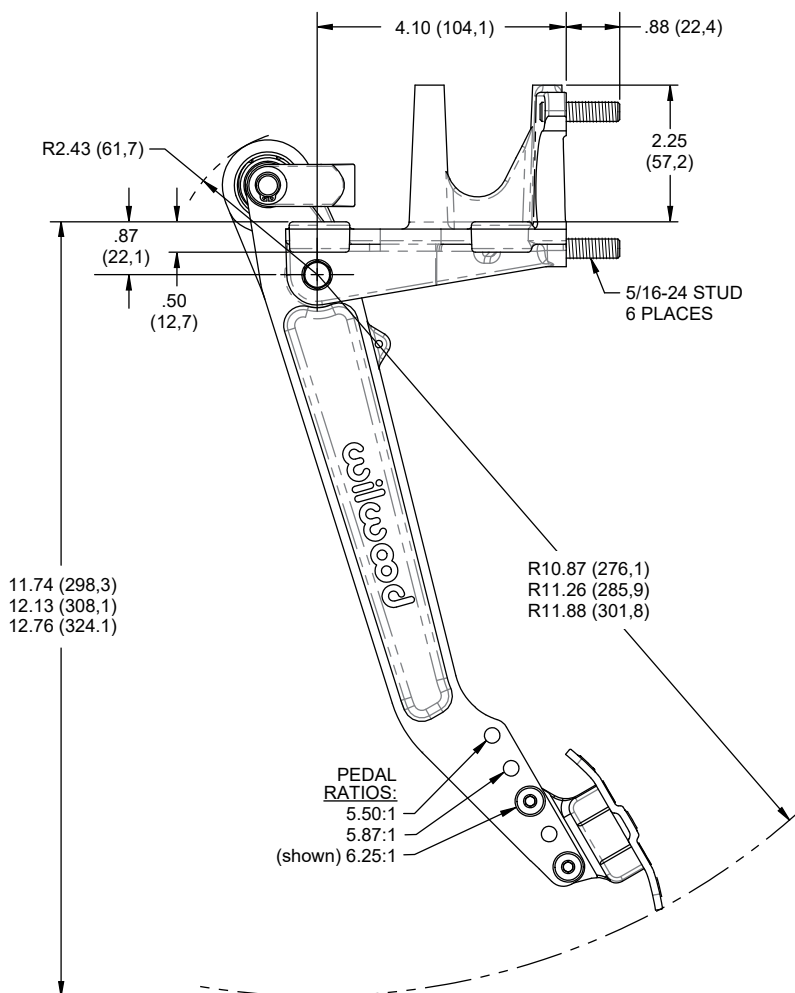

Figure 1a. Reverse Swing Mount Dual Pedal Assembly, Physical Dimensions, 5.50:1 to 6.25:1 Ratio (P/N 340-16386)
•Wilwood's reverse swing mount dual pedal assembly must be mounted using the four .35" diameter outboard tab mounting holes as shown in Figures 1a & 1b. Attach the pedal assembly to two sturdy beams or plates with four 5/16" bolts. Pedal assembly must be rigidly attached to frame and not deflect under heavy pedal forces. **NOTE: Pedals must be free from obstructions over their entire range of motion.** Allow enough space so Tru-Bar balance bar adjustments can be made and master cylinders are accessible.